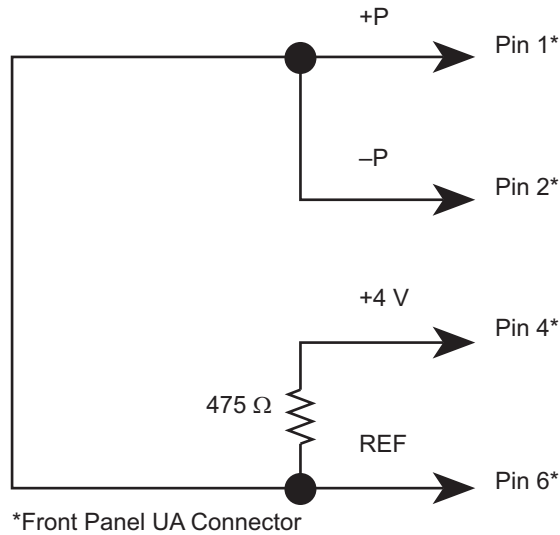

Figure 7-7. CMR Test Jack
- Common Mode Rejection (CMR) Test Jack (Figure 7-7 and Table 7-8)